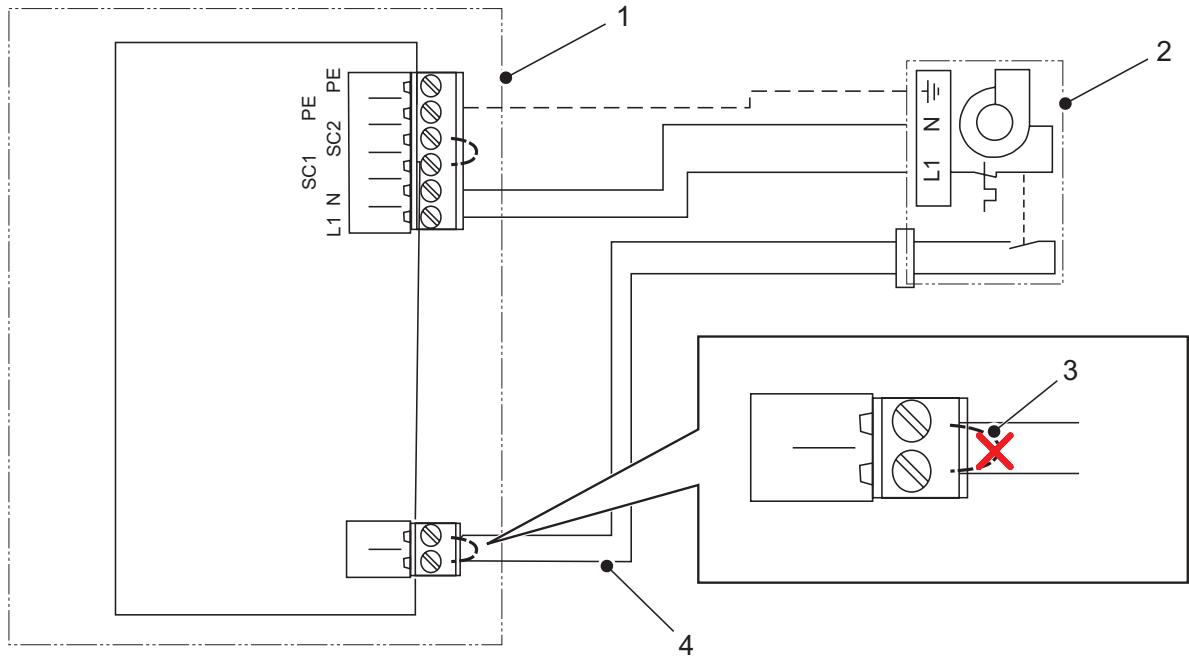

Figure 20: Driver Board Connections
- d. Wire and connect the power supply and security loop cables to the driver board inside the humidifier, as shown in Figure 20.